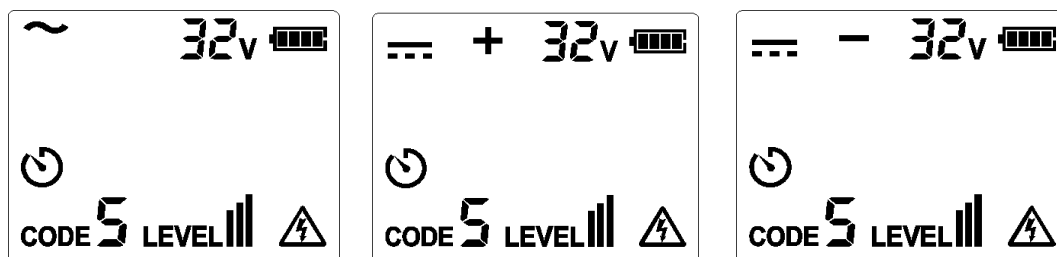

Figure 7.1.2a Voltage over 30V
2. Test and confirm if the connection of test leads is correct. For circuit with voltage over 30 V AC/DC, the warning symbol will light up. As shown in Figure 7.1.2a.